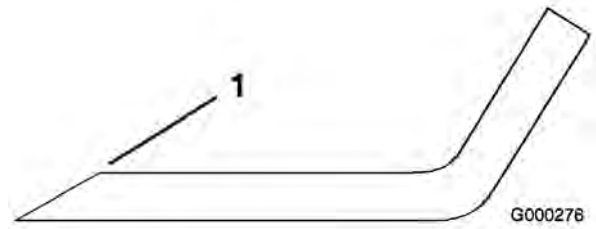

Figure 49
1. Use a file to sharpen the cutting edge at both ends of the blade (Figure 49). Maintain the original angle. The blade retains its balance if